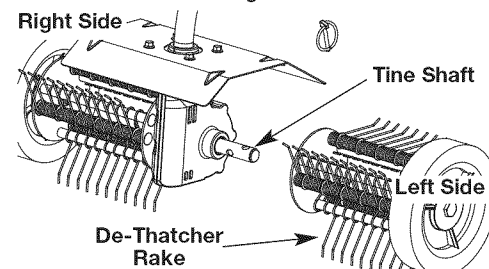

Fig. 4
1. Slide the de-thatching rake, with the hub facing inward, onto the tine shaft. Make sure to align the front hole on the shaft with the front hole on the de-thatching rake. (Fig. 4)